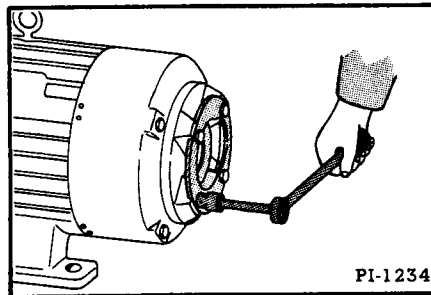

Fig. 159 Attaching Mounting Plate to Motor
9. Assemble the pump mounting plate to the bell housing (Figure 159).